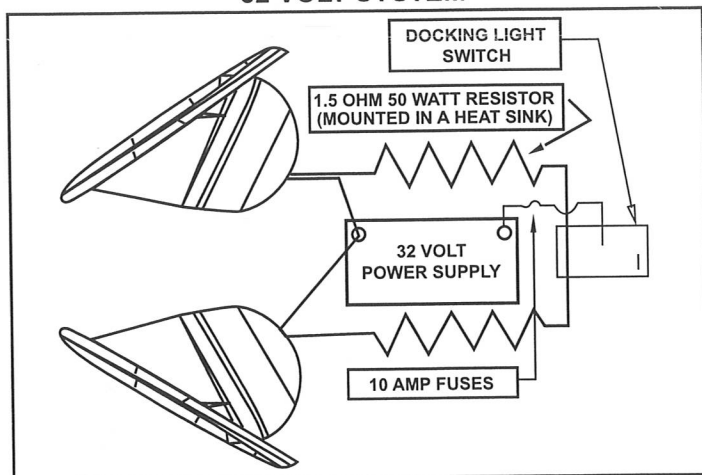

Figure 3
4.1 Following A.B.Y.C. STANDARDS AND RECOMMENDED PRACTICES FOR SMALL CRAFT Use appropriate wire type and gauge for the length of your wire run. Figure 3.